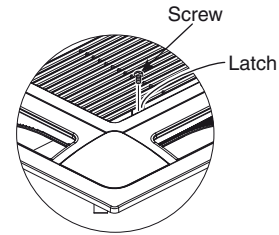

Fig. 7-3
- (1) Remove the air-intake grille and air filter from the ceiling panel.
- a) Remove the 2 screws on the latch of the air-intake grille. (Fig. 7-3) (Reattach the air-intake grille after installation of the ceiling panel.)